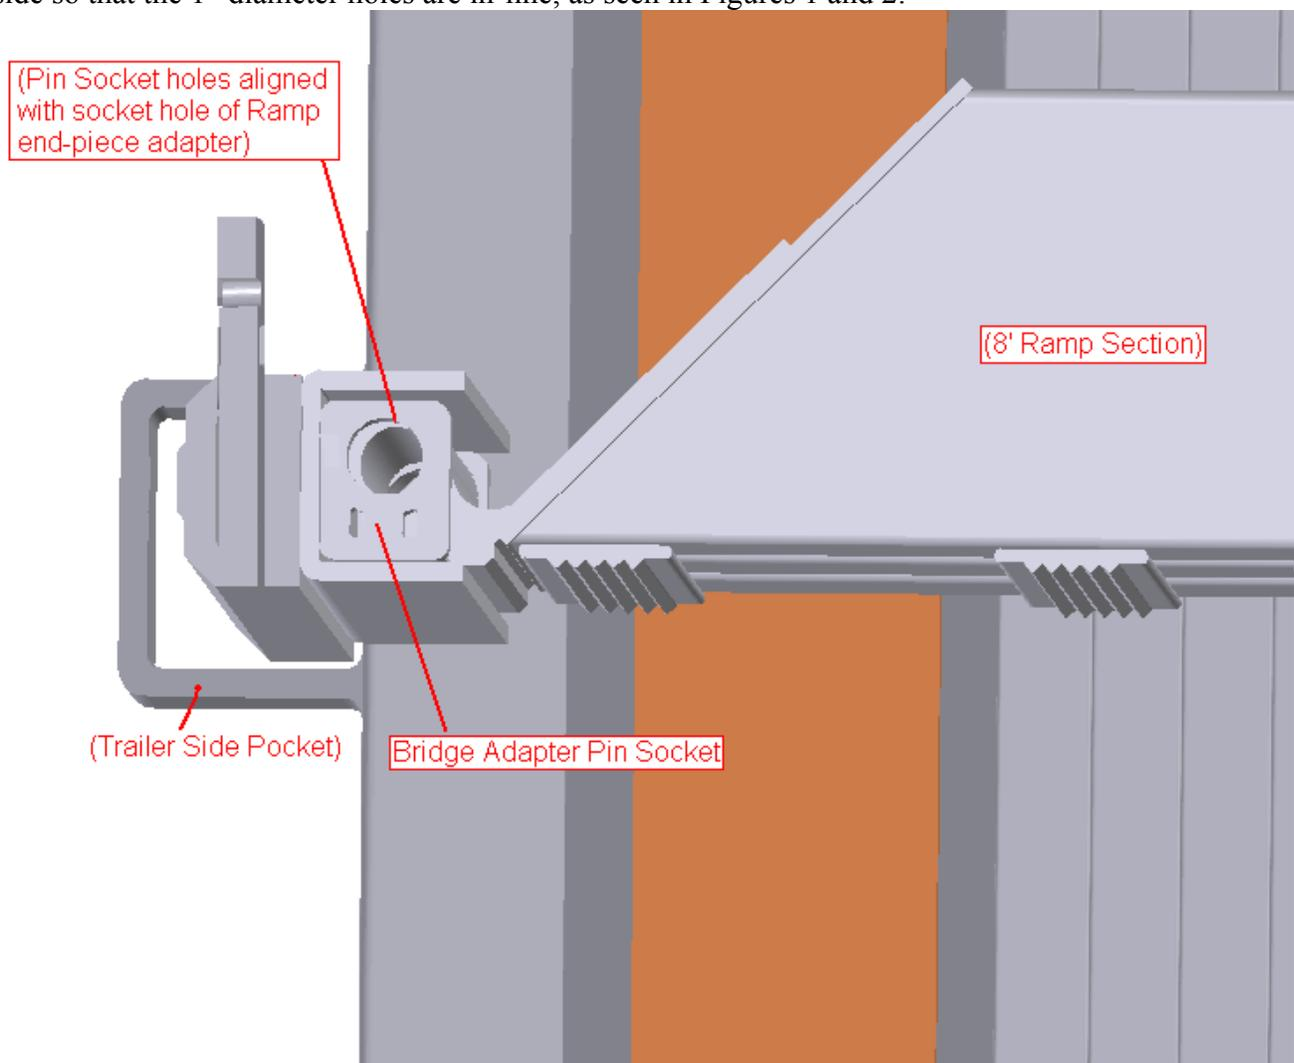

Figure 1 – Overhead View of Ramp End Adapter Aligned with Bridge Adapter Pin Socket
1) With the appropriate quantity of Ramp sections required for your Ramp-Leveler hauling needs (as-determined from *N* per the previous Survey section) placed onto your Trailer's lower deck, take the Bridge Adapter that is solidly welded to a Stake Post and place the Post down into the foremost driver's side pocket marked with rope/string. With the ramp end miters sloping away from the drop i.e. the bottom face of the ramp facing toward the upper deck, slide the ramp into the Bridge Adapter on the driver's-side so that the 1" diameter holes are in-line, as seen in Figures 1 and 2: